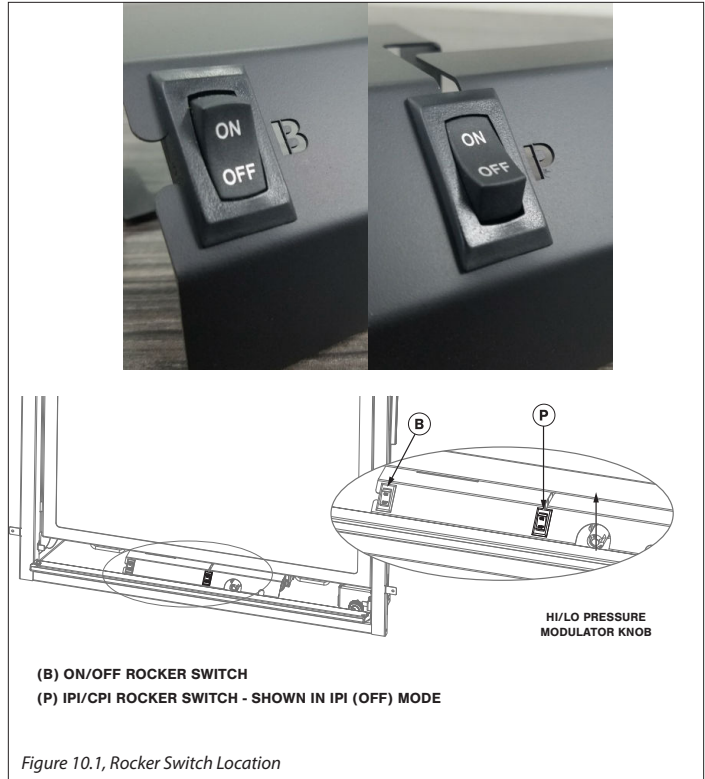

Figure 10.1, Rocker Switch Location
There are (2) rocker switches located on the gas valve housing in the control compartment. You will need to remove the bottom frame to access this. The main burner rocker switch is marked 'B' and the IPI/CPI pilot rocker switch is marked 'P'. See Figure 10.1 below.
NOTE: Figure 10.1 shows the CPI/IPI mode control switch (pilot rocker switch, marked 'P') is already in the ON position. It has first to be turned OFF, then back ON, to re-activate the CPI mode together with the the 7 day Time-out counter.